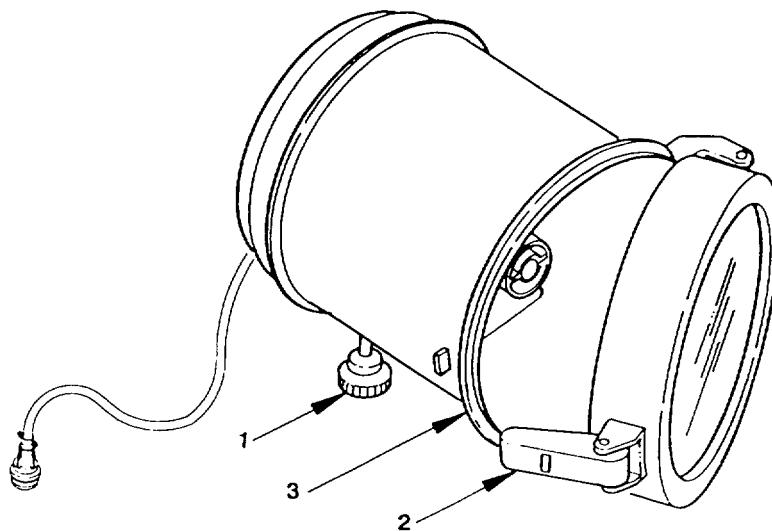

Figure 2-144. Spotlight, Adjust.
a. Adjust. (figure 2-144)
- (1) Release the stainless steel latch (2) by pushing the safety catch back with the thumb while lifting the toggle with the forefinger.
- (2) After replacing the lamp, refocus it by projecting a beam on a flat surface approximately 50 feet away. Use the knob (1) at the bottom of the searchlight to focus. The searchlight is in focus when the beam pattern is smallest.
- (3) Adjust latch (2) tension and gasket (3) compression by changing the length of the hooks on the latches as desired by turning.